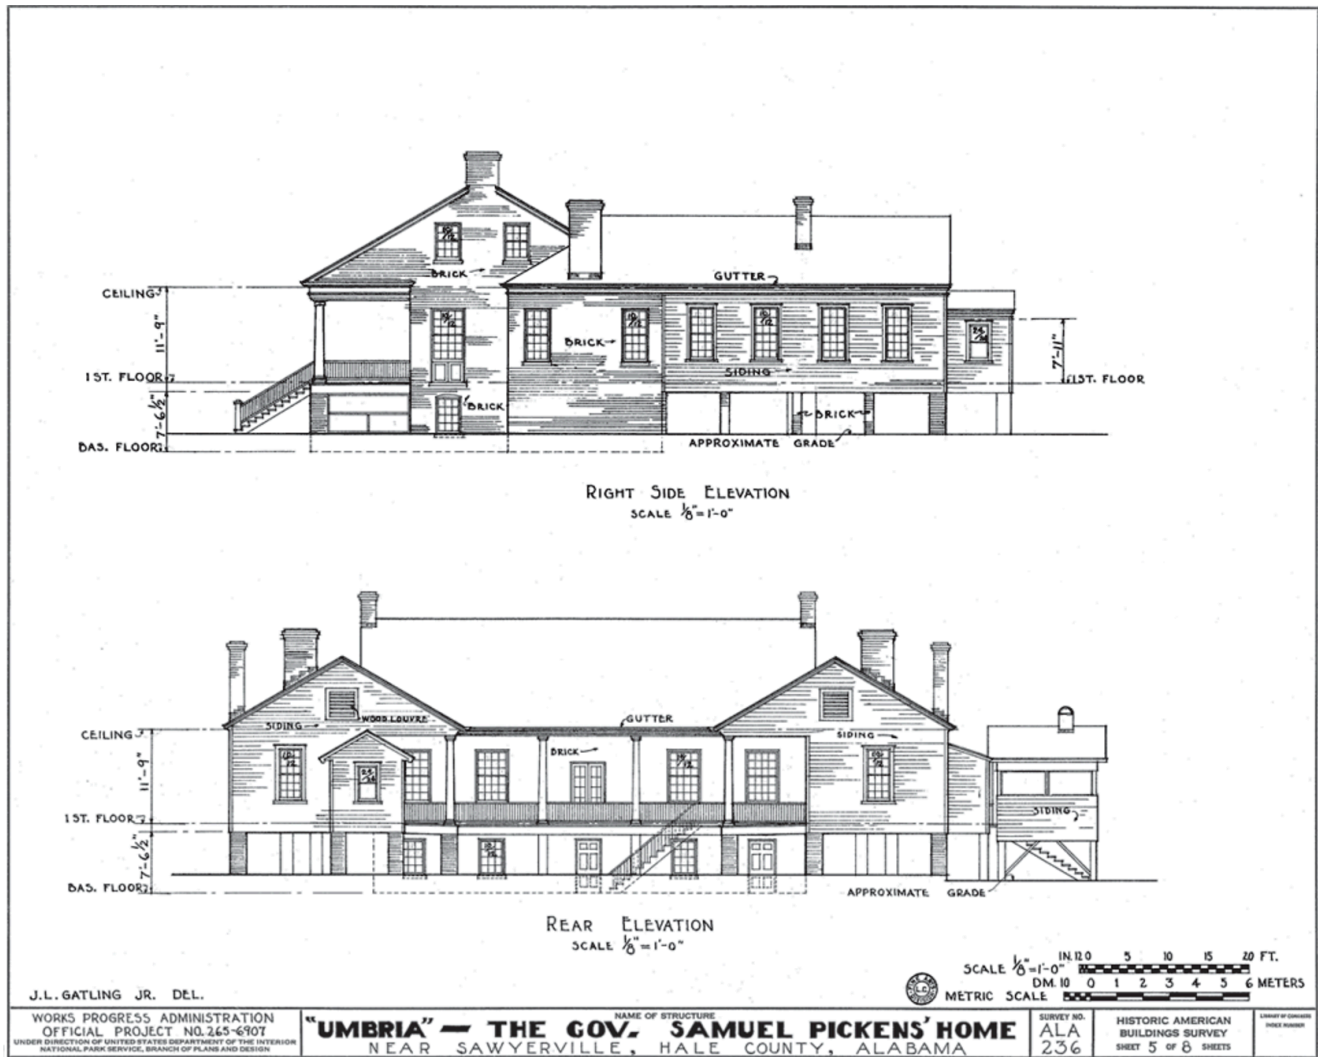

Figure 7 Elevation view (Public domain image from Library of Congress, Prints and Photographs Division, AL-236)
- exterior details, including material, dimensions roof pitch -see figure 7